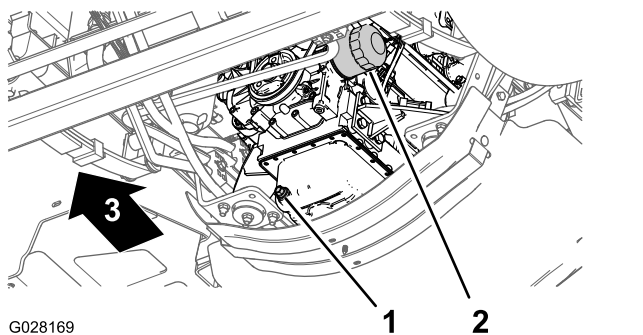

Figure 70
3. Align a drain pan under the engine-oil filter (Figure 70).
4. Remove the old oil filter (Figure 70).
8. Install the oil filter to the filter adapter and turn the oil filter clockwise until the rubber gasket contacts the filter adapter, then tighten the filter an additional 1/2 turn (Figure 70).
1. Align a drain pan under the drain plug (Figure 70).
2. Remove the drain plug and allow the oil to drain completely (Figure 70).